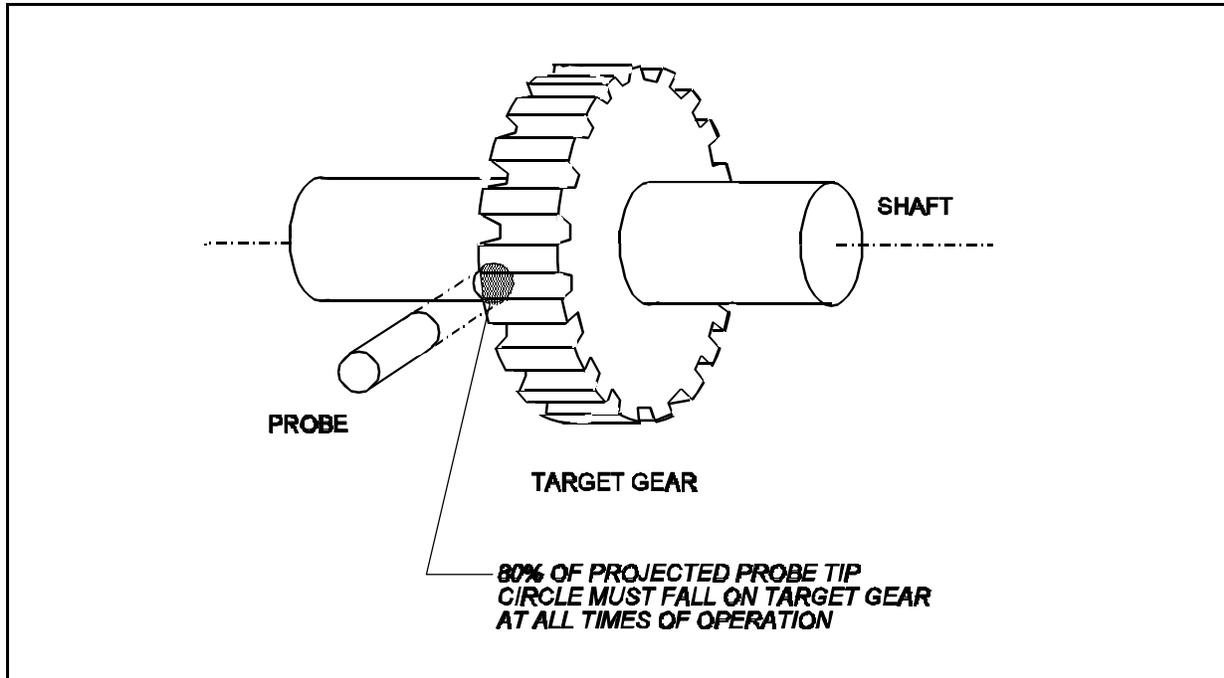

Figure 1
- 1.01a. The selected shaft location should not be subject to rotor thrust or thermal growth motion to the magnitude which would offset the gear from acceptable alignment with the speed probe/s sensing tip. During all periods of operation a projection of the probe tip should intersect the target gear over a minimum of 80% the circular area as illustrated in Figure 1 .